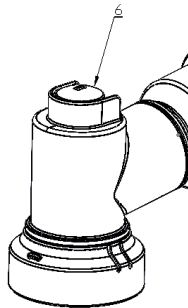

Fig.3
- 1) Push the shaft-locking button (6) (Fig. 3)